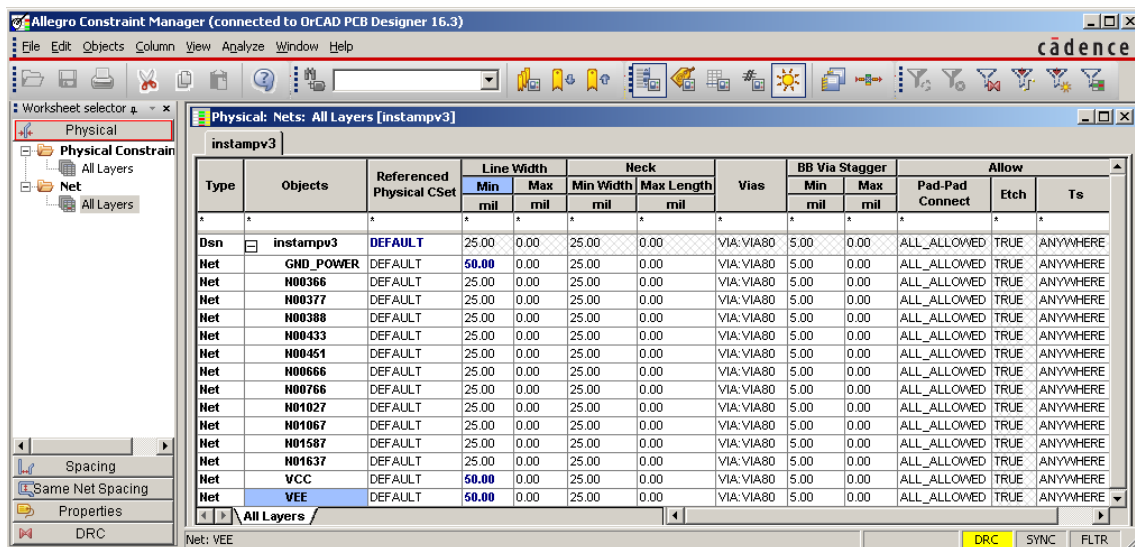

Figure 13. Constraint manager after changing the widths of the three power nets.
2. The left-hand part of the window shows the various properties that can be edited. Click on All Layers under Net. See figure 13 for guidance.
4. Change the minimum width for these three nets from 25 to 50 mil. These are in the column under Line Width and Min. (I have changed other defaults in figure 13 but don't worry about these for now; I'll explain in section C.6 on page 56.)
Fixup. Choose Setup > Constraints > Physical... from the menu bar and select the upper All Layers spreadsheet under Physical Constraint Set. This resembles figure 13 on page 29 but has only a DEFAULT row. The column headed Vias probably shows VIA:VIA26. Click in this cell to open the Edit Via List. Remove VIA from the Via list on the right and click OK. The cell now contains only VIA26, which is what we want. Close the Constraint Manager and return to PCB Editor. 🍷